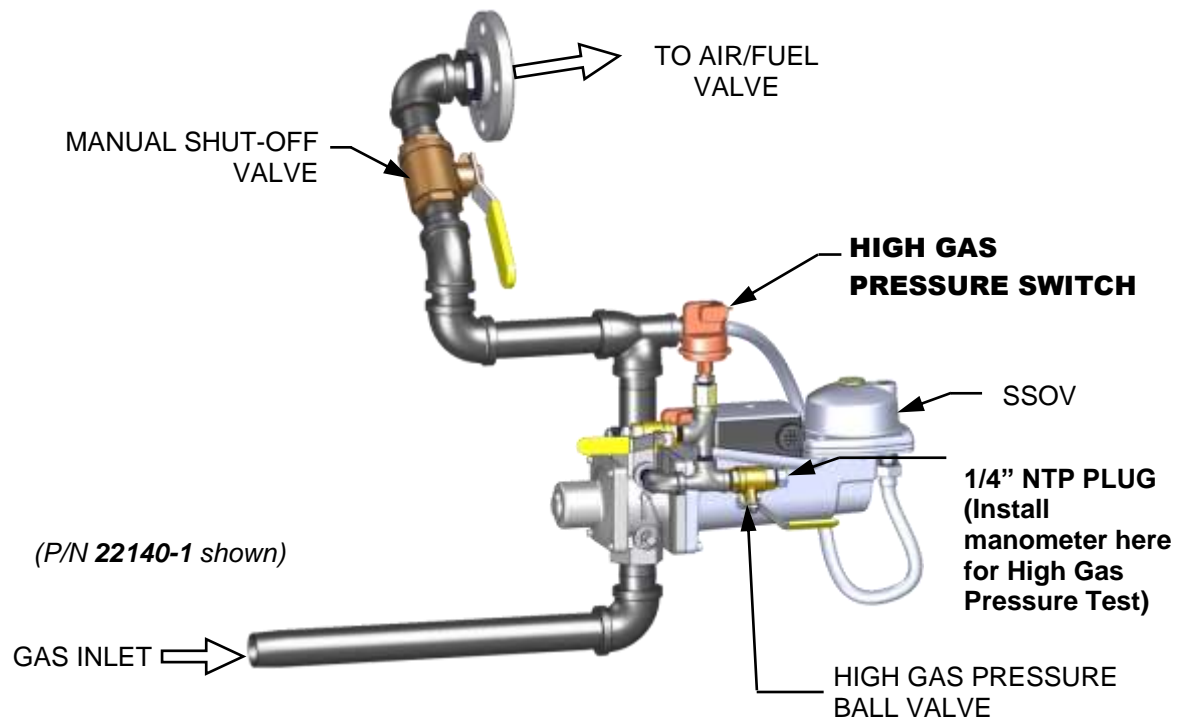
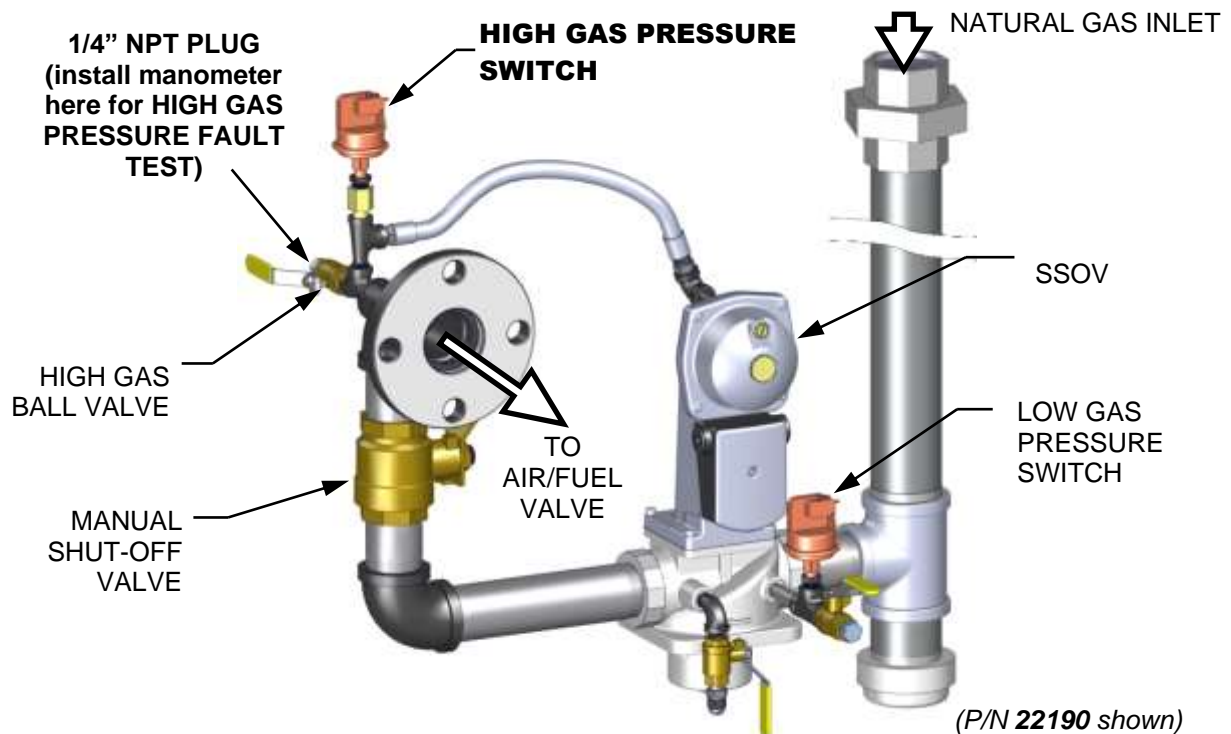

Figure 5-3a: BMK750/1000 HIGH Gas Pressure Test Components
Figure 5-3c: BMK2500 HIGH Gas Pressure Fault Test
To simulate a high gas pressure fault, refer to Figure 5-3a through Figure 5-3c and perform the following steps:
2. Remove the 1/4" NPT plug from the High Gas pressure leak detection ball valve shown in Figures 5-3a through 5-3c.
5. Close the gas train's Manual Shutoff valve located between the Safety Shut-Off Valve (SSOV) and the Air/Fuel Valve, as shown on Figure 5-3a to 5-3c, above.